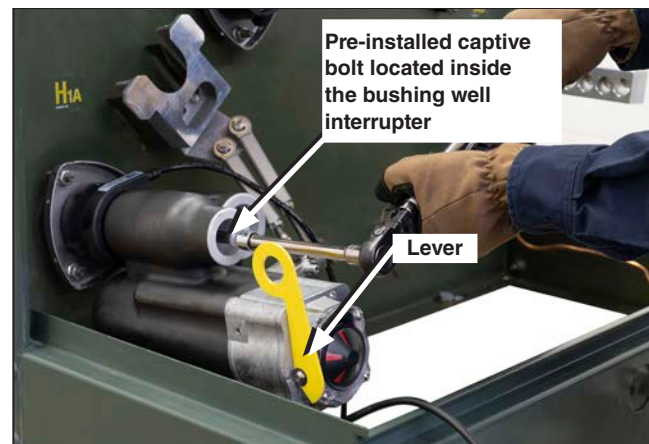

Figure 18. Align the bushing well interrupter with the bushing well insert. Torque the captive bolt.
- STEP 3.** There is a captive bolt inside the bushing well interrupter. Install the bushing well interrupter onto the bushing well adapter with the yellow lever in the vertical orientation, as shown in Figure 18.